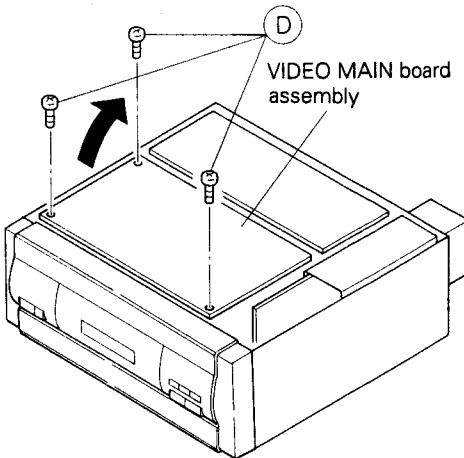

Fig. 1-4 MAIN board assembly
2. Remove three screws (D) and raise the VIDEO MAIN board assembly in the direction of the arrow. (Fig. 1-4)